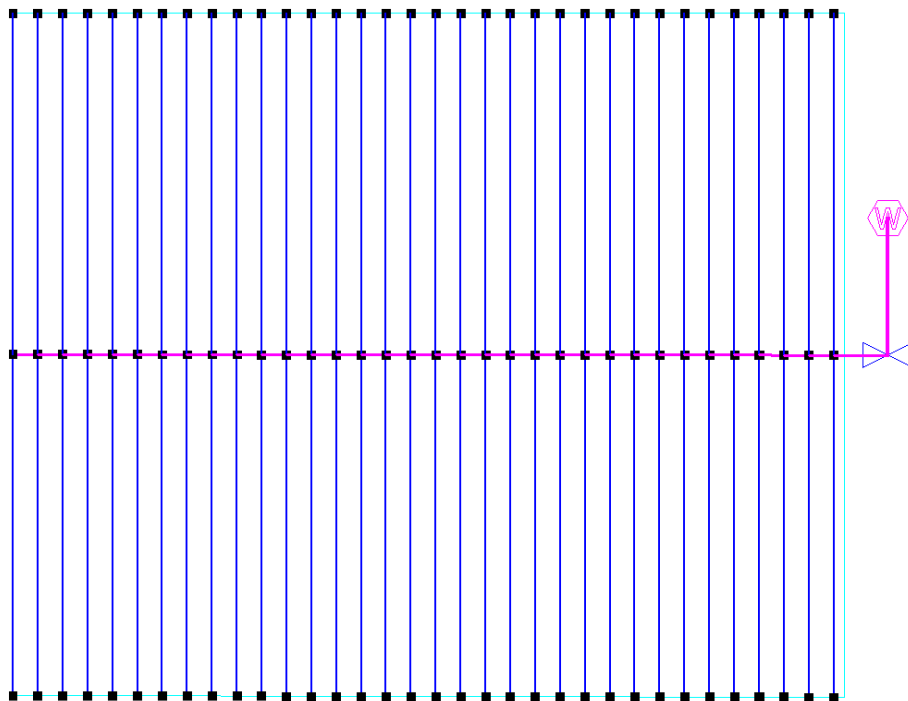

Figure AD 4
14. Select *Mainline|Water Supply* and place on the end of the mainline pipe with a left-click as in Figure AD 4. Leave the Water supply details as the defaults; simply click [OK]. Now select *View|Zoom All*.